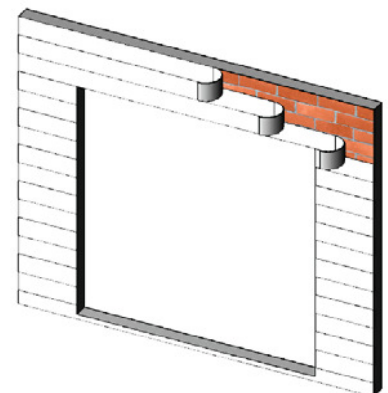

Figure 15:
6. To complete the installation, apply backer rod and a complete bed of sealant to the entire exterior and interior joint between the frame and the building structure. Tool the sealant to eliminate bubbles, voids and/or breaks and ensure a completely watertight seal. (See Anchor Location Drawing, Figure 15).
4. Weather resistant building paper should be applied in a weatherboard fashion to complete the installation (Figure 15).